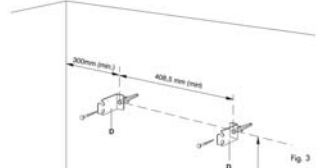

Fig 3
- 安装固定架“D”确保如图3所示的距离。
- Fix the brackets "D", making sure the distances are as shown in Fig. 3.